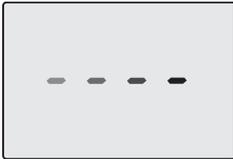
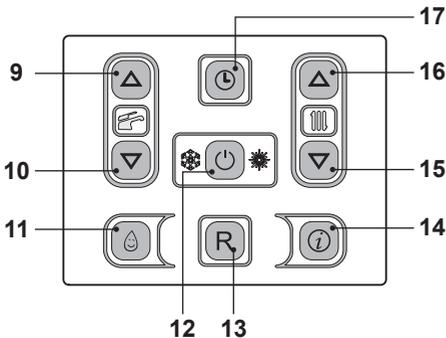

Fig. 7.7
Fig. 7.8
- Electrically power the boiler by switching on the double pole isolation switch. The LCD will display, the - - - - symbol (Fig. 7.7).
- Press the 12 key for 2 seconds until  symbol appear on the display Fig. 7.8.
- Switch off the boiler by pressing the 12 (Fig. 7.8) key for 2 seconds until the - - - - symbol appears on the LCD display (Fig. 7.7).
Press the reset key on the boiler control panel 13 (Fig. 7.8) to reset its functioning.